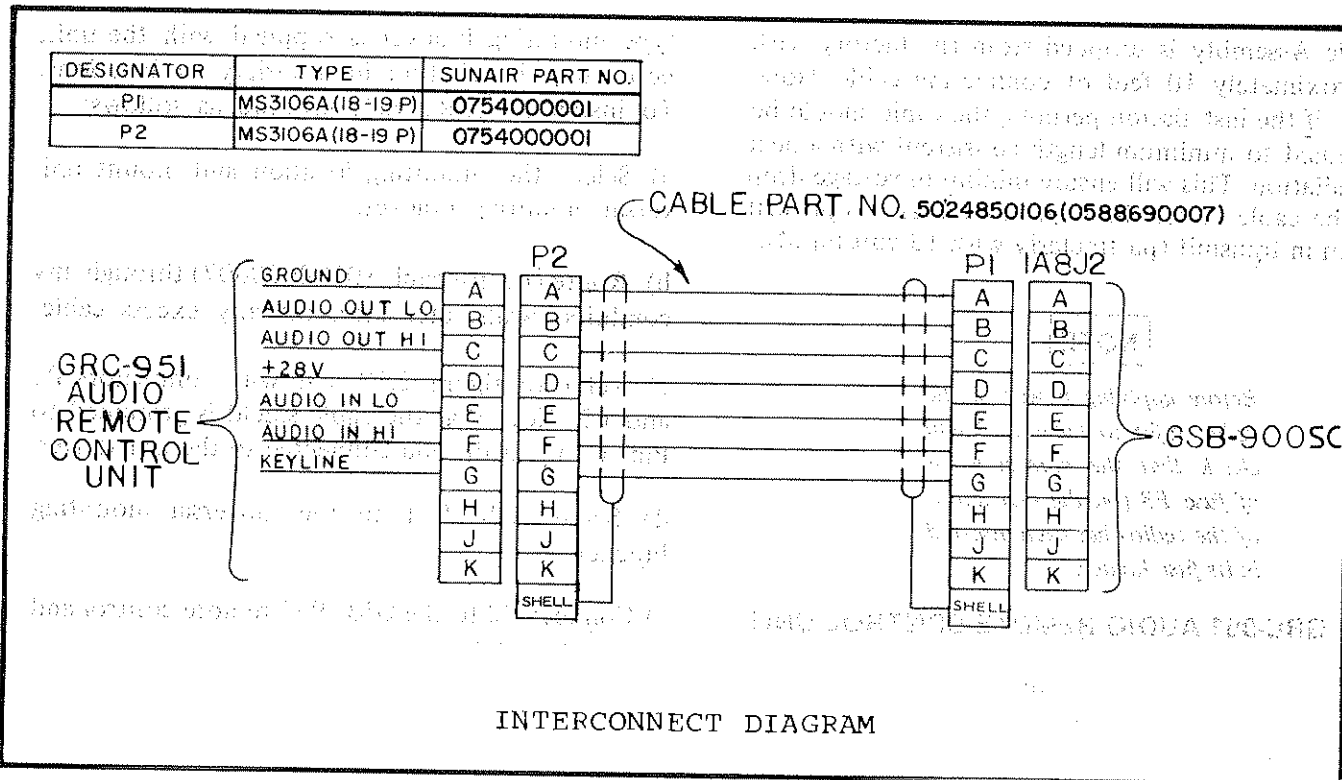

Figure 2.19 GRC-951 Audio Remote Control Unit Interconnect Diagram
- c) Refer to figure 2.19 and wire connectors P1 and P2. Note that the cable shield is grounded to Pin A only at the end connected to the transceiver.